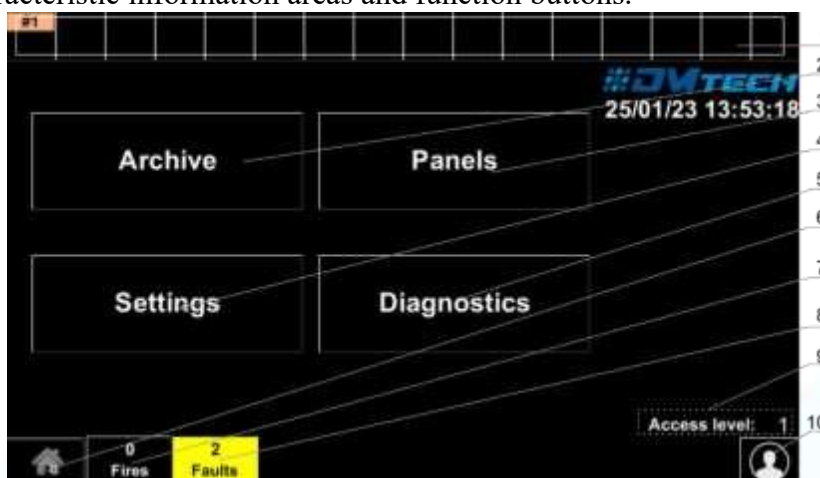

Fig. 2
5.2.1. Indication – in Fig.2 is shown the indications of the FP900A-6 panel. It consists of eight fields with light indication and three buttons (two of which with indication). The following table describes their functionality:
5.2.2. Initial screen of the panel – in Fig. 2 is shown the homescreen with the characteristic information areas and function buttons.